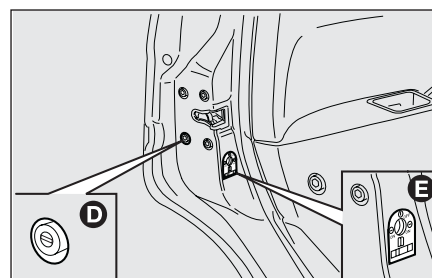

fig. 13
- ☐ operation of the emergency front and rear door lock release system **D**-fig. 13 from the outside for use the electric system is not working (e.g. flat battery);